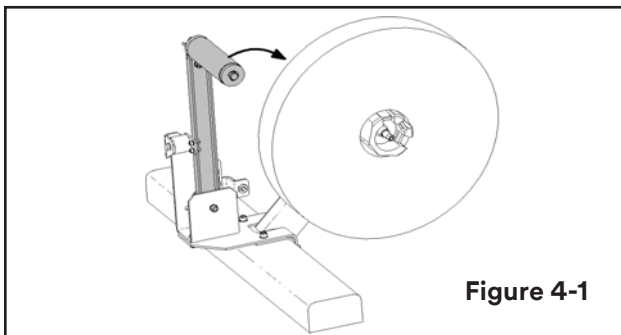

Figure 4-1
- 1) Pull the spring loaded dancer arm away from the tape roll until it contacts the holding magnet (**Figure 4-1**). The magnet will hold the dancer arm away from the tape drum allowing you to easily remove and install tape rolls.